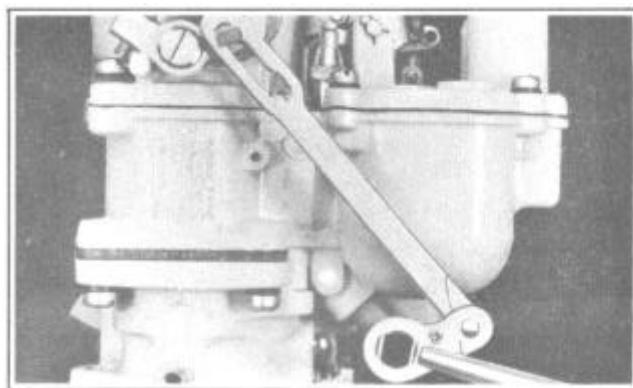

FIGURE 54
1. Remove throttle shaft arm and screw assembly and fast idle connector link, Figure 54.